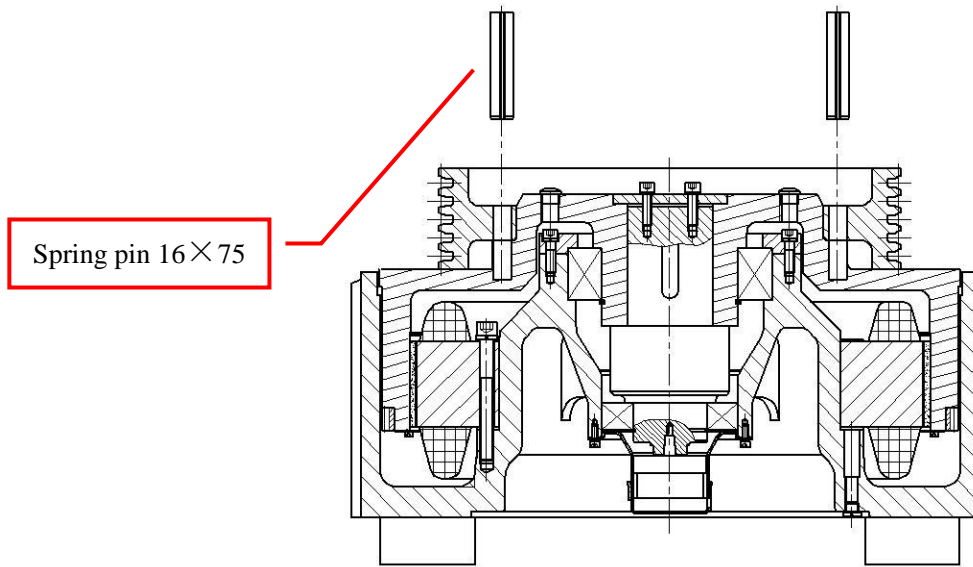

Figure 38: Install Drive Sheave and spring pins
2. Check and clean the new drive sheave and heat it to 80° C (176° F). Hoist the drive sheave and slide it on the brake wheel using the two M12x160 double ended studs as guides. (**Note: ensure the pin holes of the traction wheel align with the pin holes of the brake wheel.**) Install the spring pins 16×75 into the pin holes. The end face of the pin should be higher 2-3mm than the end face of the traction wheel. See Figure 38.